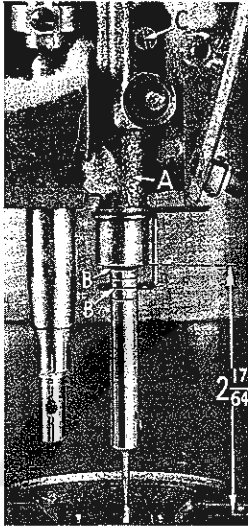

Fig. 11
The lower end of the needle bar frame, the one to which the needle bar is timed, is faced to height at the factory. The distance from the bottom of frame (A, Fig. 11) to the throat plate seat is $2 \frac{17}{64}$ inches.
When the needle bar is at its lowest position, the upper timing line (B, Fig. 11) (of the pair selected) dependent upon the needle used, should be EVEN with the lower edge of the lower needle bar frame (A).
The illustration (Fig. 11) shows the proper setting of the needle bar on Styles 63900 A, C or AL using extra short length needles, Type 183. The setting of the needle bar on Styles 63900 B or D using short length needles, Type 180, is accomplished in the same manner, except that the lower pair of timing marks on the
Tip the machine back so that it rests on the rest pin in the table top. Insert a new needle. Loosen the two screws, and swing out the bobbin case positioning finger (A, Fig. 12). Loosen the three set screws (B) in the hook, and hold the hook and bobbin case holder in such a position as to prevent interference with the needle. Turn handwheel in operating direction until the needle bar is at its lowest position, and continue to turn the handwheel until the needle is ascending and the lower timing mark (of the pair selected) (Fig. 11) used in setting the needle bar is even with the lower edge of the needle bar frame (A).